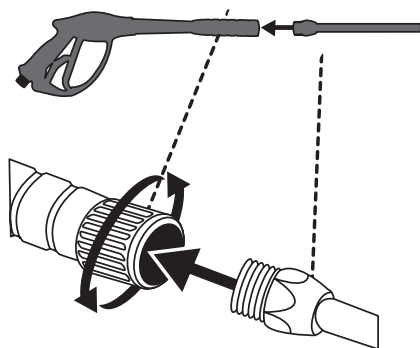

Figure 3-2
1. Connect spray wand to spray gun. Tighten securely. See Figure 3-2.